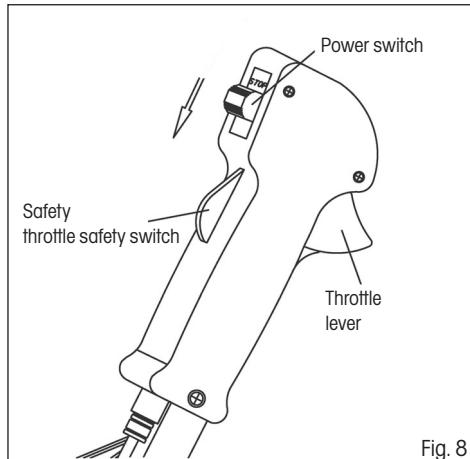

Fig. 8
1. Set the power switch to the "START" position. (see fig. 8)
- ❖ To increase speed, first use the palm of your hand to push down the throttle safety switch and then use your finger to pull on the throttle trigger (see fig. 8)